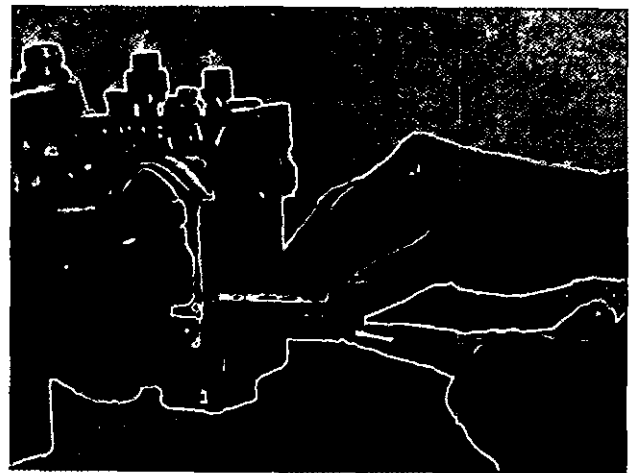

Fig. 4-3 (F510). Remove the standard spring assembly.
3. Remove the idle spring plunger guide (adapter when in use), idle spring or springs, idle spring plunger and spring washer, Fig. 4-3.